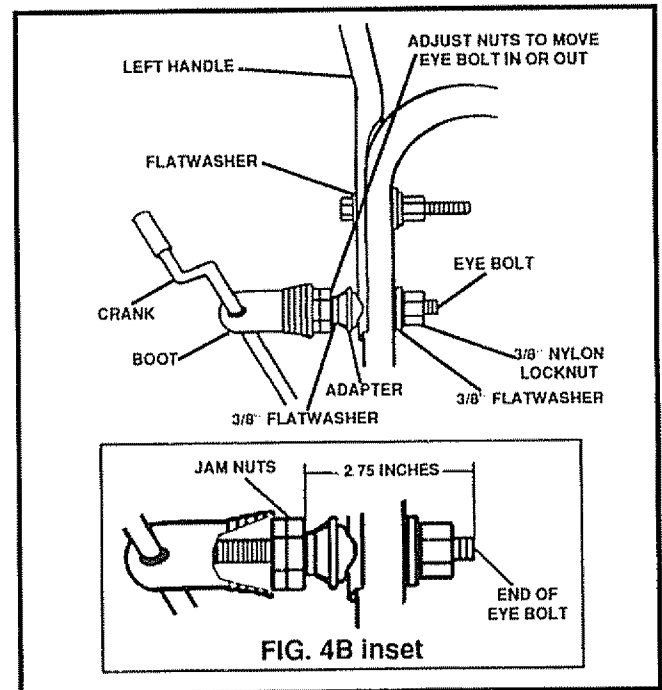

FIG. 4B
- Remove the 3/8" nylon locknut and flatwasher from the eye bolt assembly (on the chute crank assembly). Check to make sure the two 3/8" jam nuts are tight. The jam nuts should be 2.75 inches from the end of the eye bolt (Fig. 4B inset).
- Install eye bolt through lower hole on the left hand side of the handle (See Fig. 4B).
- Install the 3/8" flatwasher and the 3/8" nylon locknut loosely on the eye bolt as shown in Fig. 4B